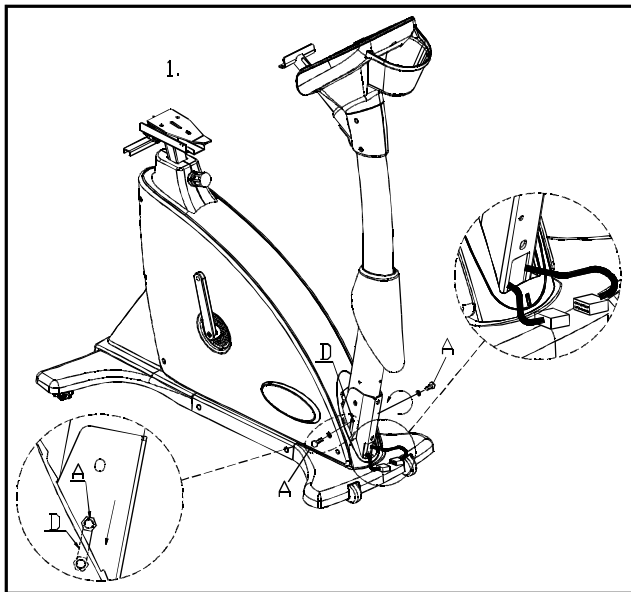

Fig.3
- STEP 2. ① First slip the pedestal cover onto the pedestal. Position the data cable for safety. Then insert the pedestal onto its mount. Lightly tighten bolts A into the lower holes (at position D) to secure the pedestal. Do not fully tighten these bolts. Pull the pedestal downward until the other holes come into place and bolts can be secured. See Figure 3.